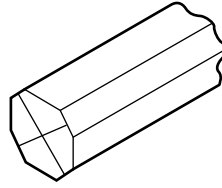

Fig. 10
- (ii) Fig. 10 shows a length of beech ready to be set up on the woodturning lathe. Give a reason why the corners have been removed.